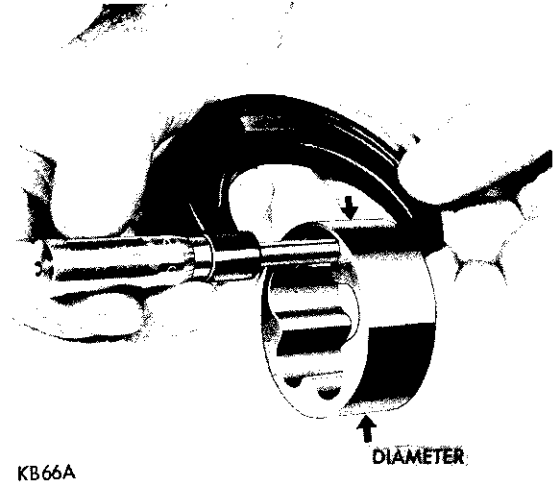

Fig. 59—Measuring Outer Rotor Thickness
- (3) If the outer rotor length measures less than .943 inch (Fig. 59) and the diameter less than 2.469 inches, replace the outer rotor.